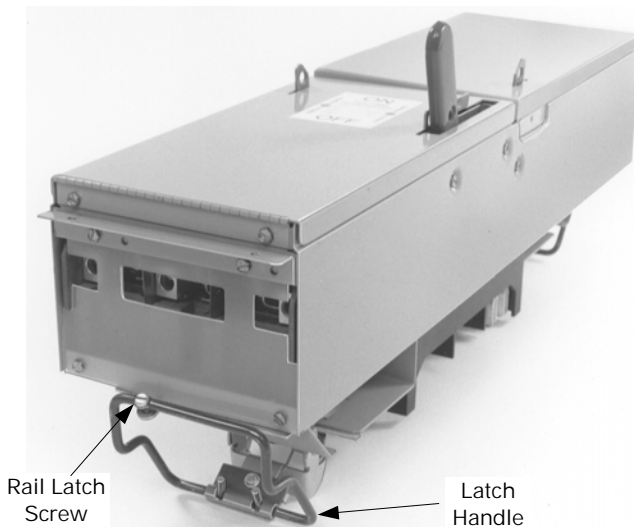

Figure 1. Removing the switch from the equipment.
1. **Remove the switch.** Loosen the rail latch screws and remove the switch by pulling up on the latch handles while pulling the device from the equipment, as shown in Figure 1.